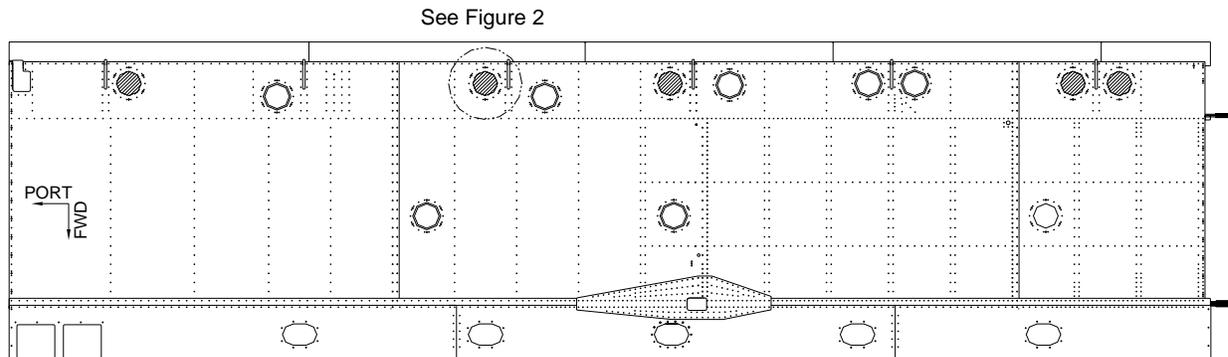
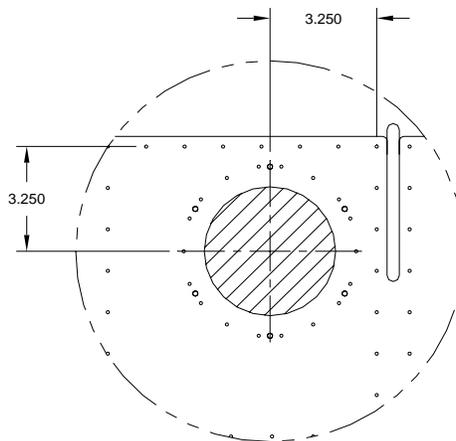

Figure 1
Figure 2
- (b) Cut four inch diameter access holes in the lower wing skin as required at five locations (indicated as hatched) in Figure 1 to the typical dimensions shown in Figure 2.